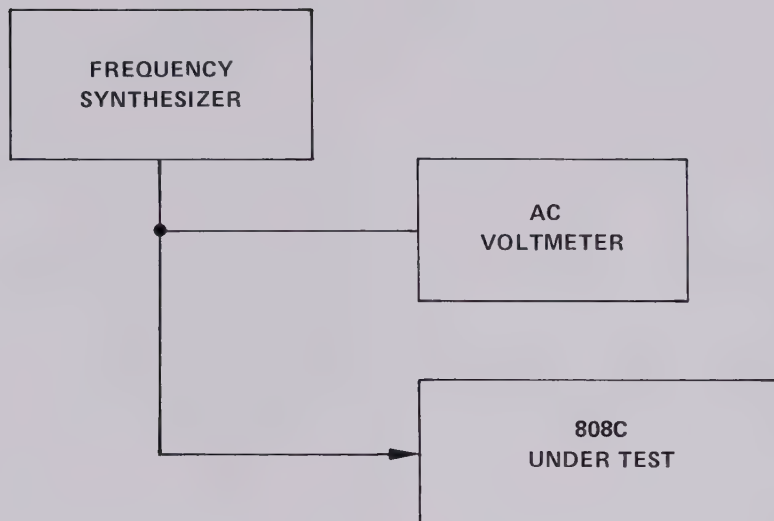

Figure 2-1. Test Set-Up
- Step 1: Connect test equipment in accordance with Figure 2-1, attaching the synthesizer between tip and ring (or "A" and "B") of the 808 test cord termination. (Note that model 808C-11's test cord terminates in a "Siemens" (triple banana) plug, and the 808C-12's test cord is terminated with a crocodile (alligator) ground lead and two expansion-pin-plugs (single banana). For convenience, "A" and "B" designate the pin plugs connected to the balanced line leads in the 808C-11/C-12 Operation Manuals.)